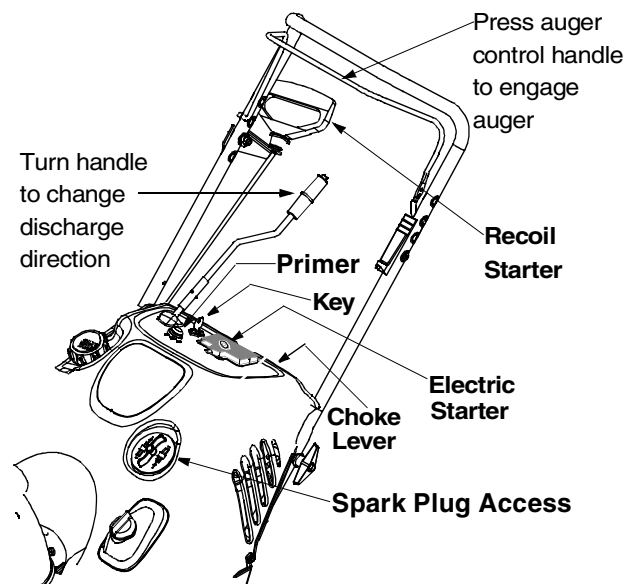

Figure 6
- Now follow the instructions below as it pertains to your unit. See Figure 6 for location of controls.